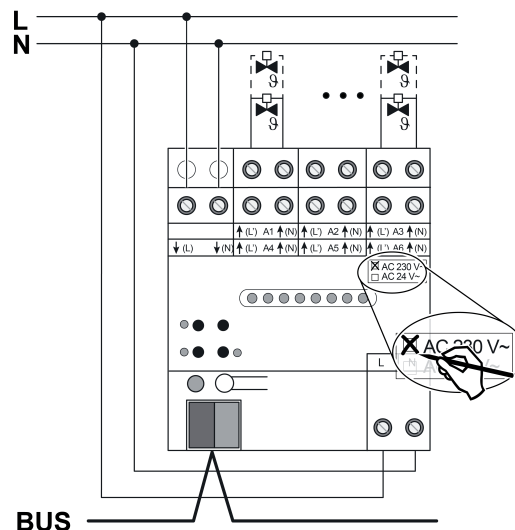

Figure 3: Connection of actuators 230 V
- Connect the AC 230 V valve drives according to the connection diagram (Figure 3).